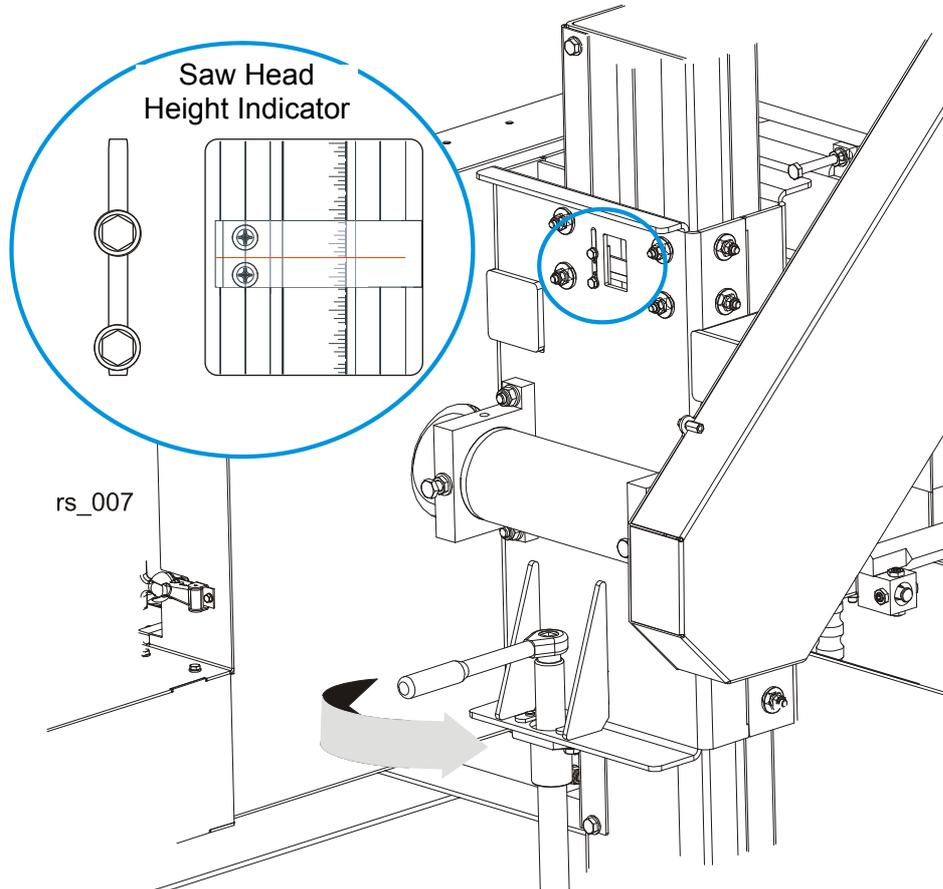

FIG. 2-15
**See Figure 2-15.** To raise or lower the saw head, use the acme screw as shown in the figure. Turn the screw clockwise to raise the saw head; counterclockwise to lower the saw